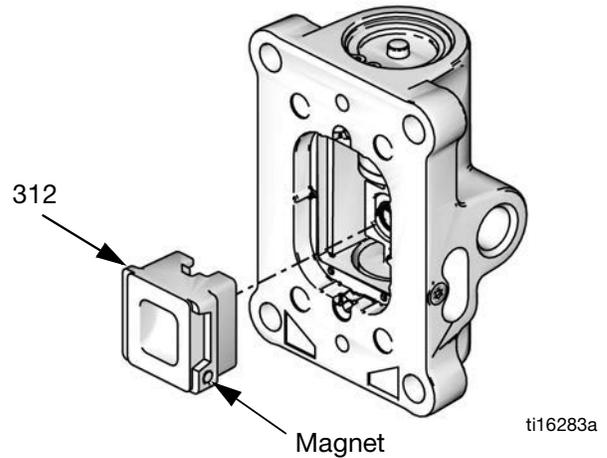

FIG. 15. Air Valve Cup Installation
7. Install the spring (311◆). Lubricate and install the air valve cup (312◆), see FIG. 15. Align the small round magnet with the air inlet.